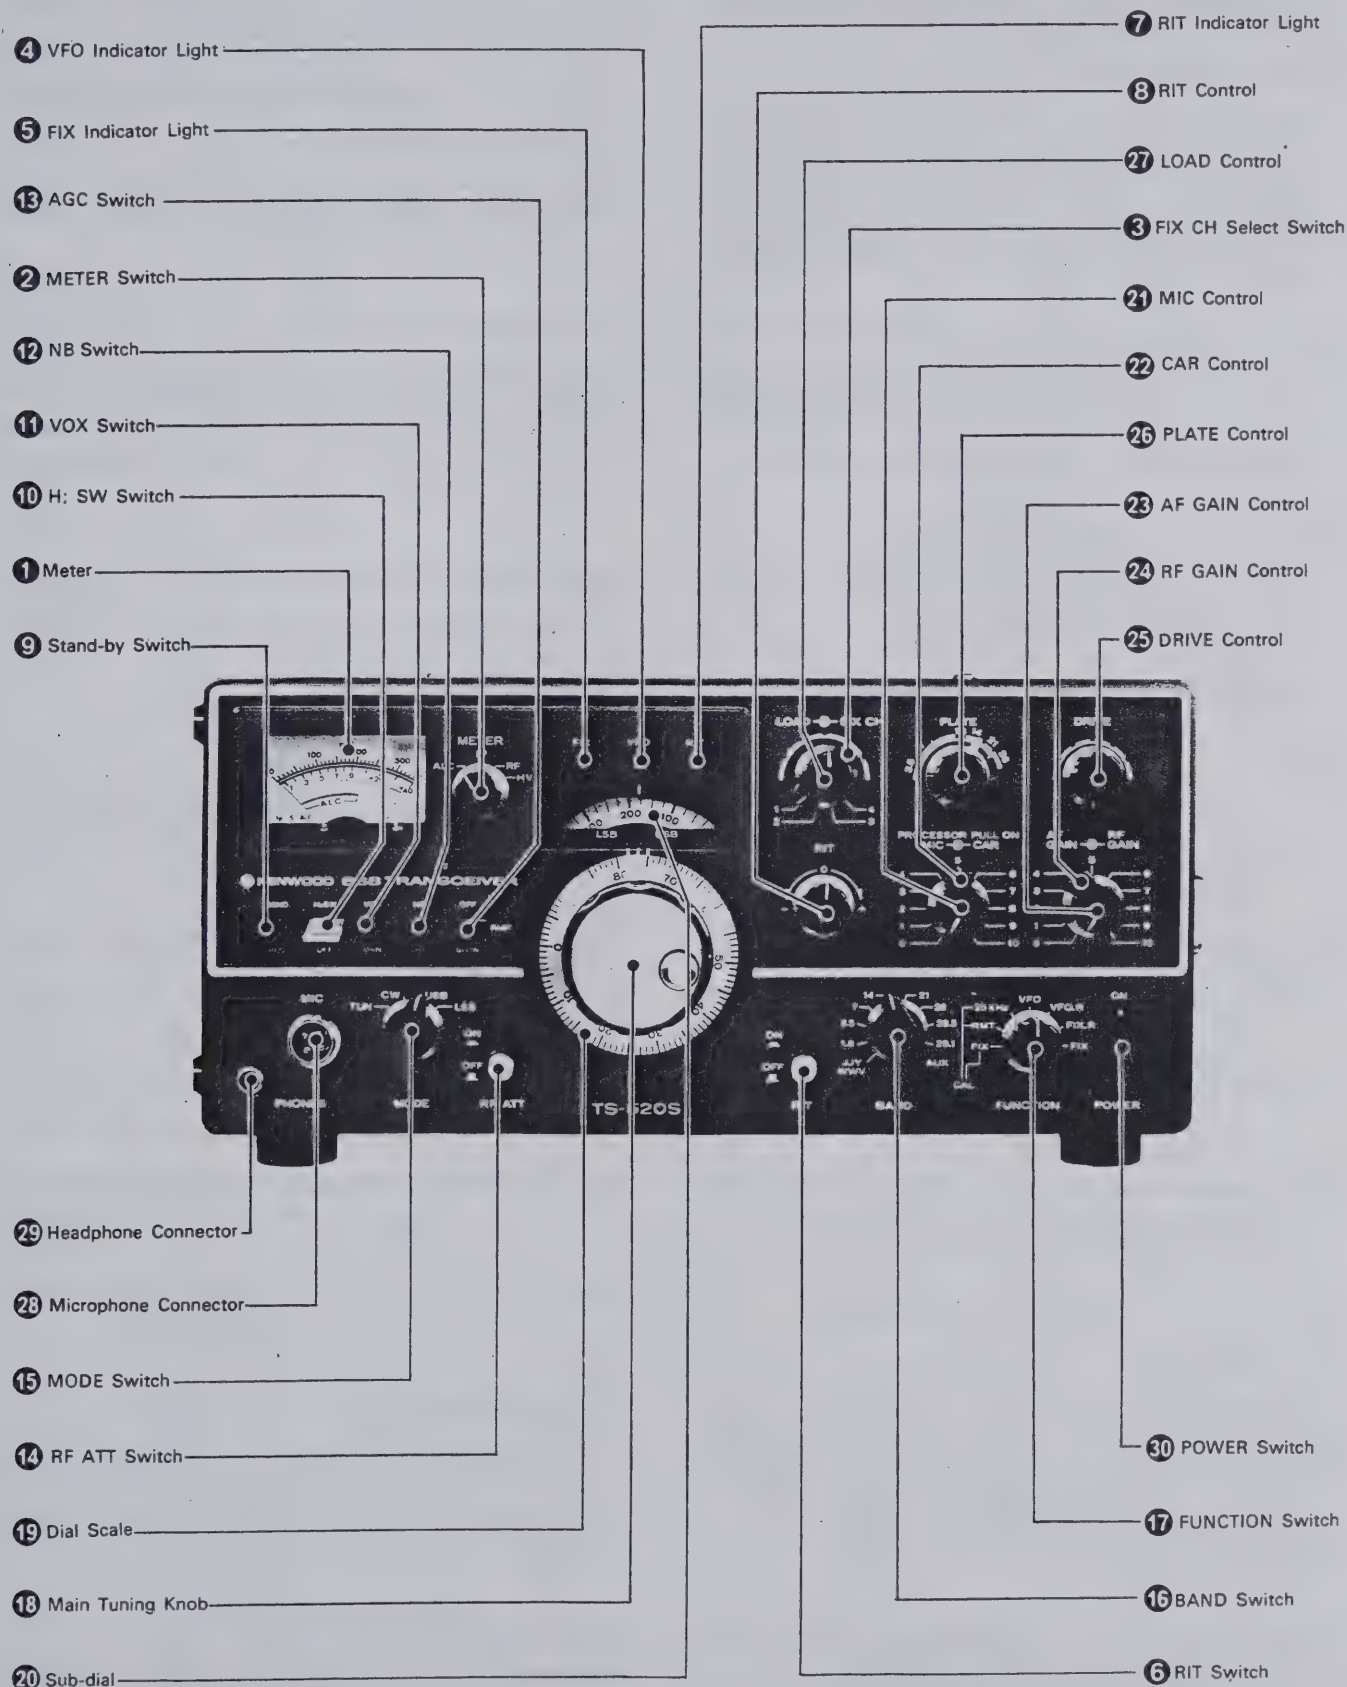

Fig. 5 Front Panel Controls
3.1 FRONT PANEL CONTROLS (See Figure 5)
■ METER (① on Figure 5)
■ METER SWITCH (② on Figure 5)
■ CH. (FIXED CHANNEL) SELECT SWITCH (③ on Figure 5)
■ VFO INDICATOR LIGHT (④ on Figure 5)
■ FIX (FIXED CHANNEL OPERATION) INDICATOR LIGHT (⑤ on Figure 5)
■ RIT SWITCH (⑥ on Figure 5)
■ RIT INDICATOR (⑦ on Figure 5)
■ RIT CONTROL (⑧ on Figure 5)
■ STAND-BY SWITCH (⑨ on Figure 5)
■ H. SW (Heater) SWITCH (⑩ on Figure 5)
■ VOX SWITCH (⑪ on Figure 5)
■ **NB SWITCH** (12 on Figure 5)
■ **AGC SWITCH** (13 on Figure 5)
■ **RF ATT SWITCH** (14 on Figure 5)
■ **MODE SWITCH** (15 on Figure 5)
■ **BAND SWITCH** (16 on Figure 5)
■ **FUNCTION SWITCH** (17 on Figure 5)
■ MAIN TUNING KNOB (18 on Figure 5)
■ DIAL SCALE (19 on Figure 5)
■ SUB-DIAL (20 on Figure 5)
■ MIC CONTROL (PROCESSOR PULL ON) (21 on Figure 5)
■ CAR CONTROL (22 on Figure 5)
■ AF GAIN CONTROL (23 on Figure 5)
■ RF GAIN CONTROL (24 on Figure 5)
■ DRIVE CONTROL (25 on Figure 5)
■ PLATE CONTROL (26 on Figure 5)
■ LOAD CONTROL (27 on Figure 5)
■ MIC CONNECTOR (28 on Figure 5)
■ PHONES JACK (29 on Figure 5)